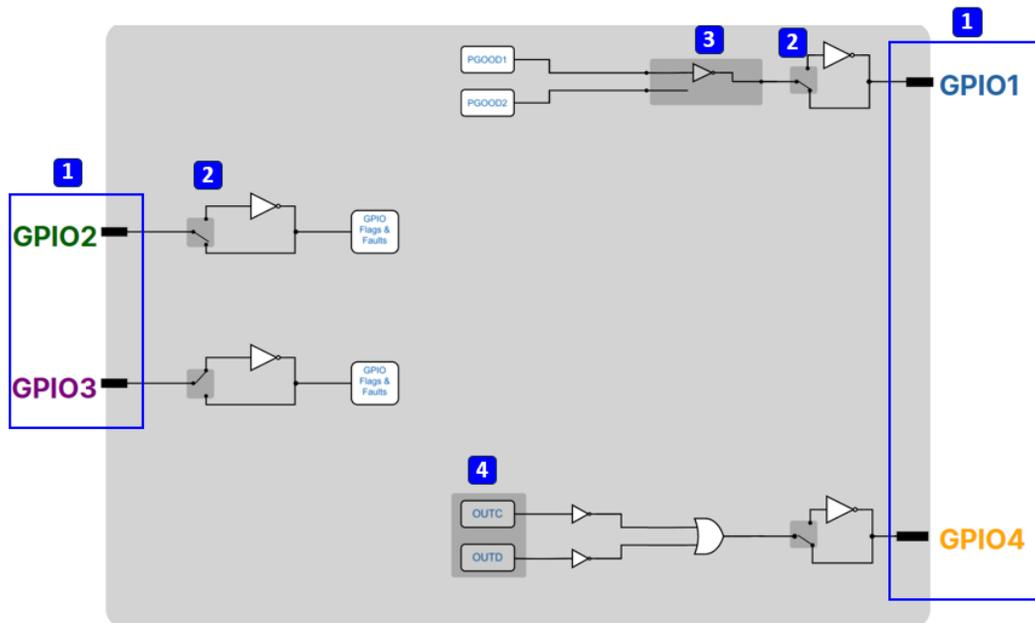

Figure 42. GPIO Settings
**Table 41. Figure 42 Callouts**